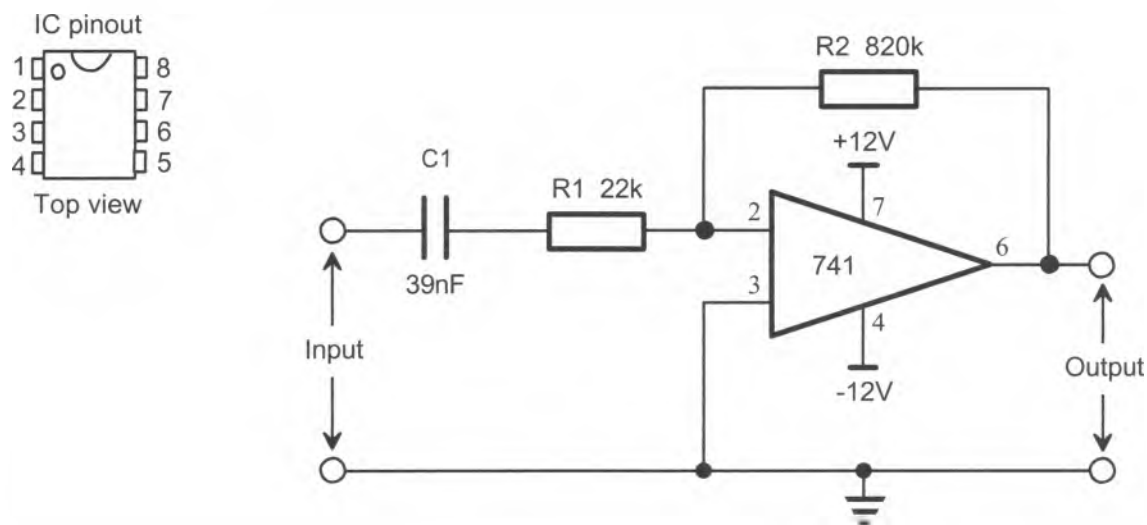

Figure 2
4. Turn off the Emona Trainer and wire the circuit in Figure 2 below.